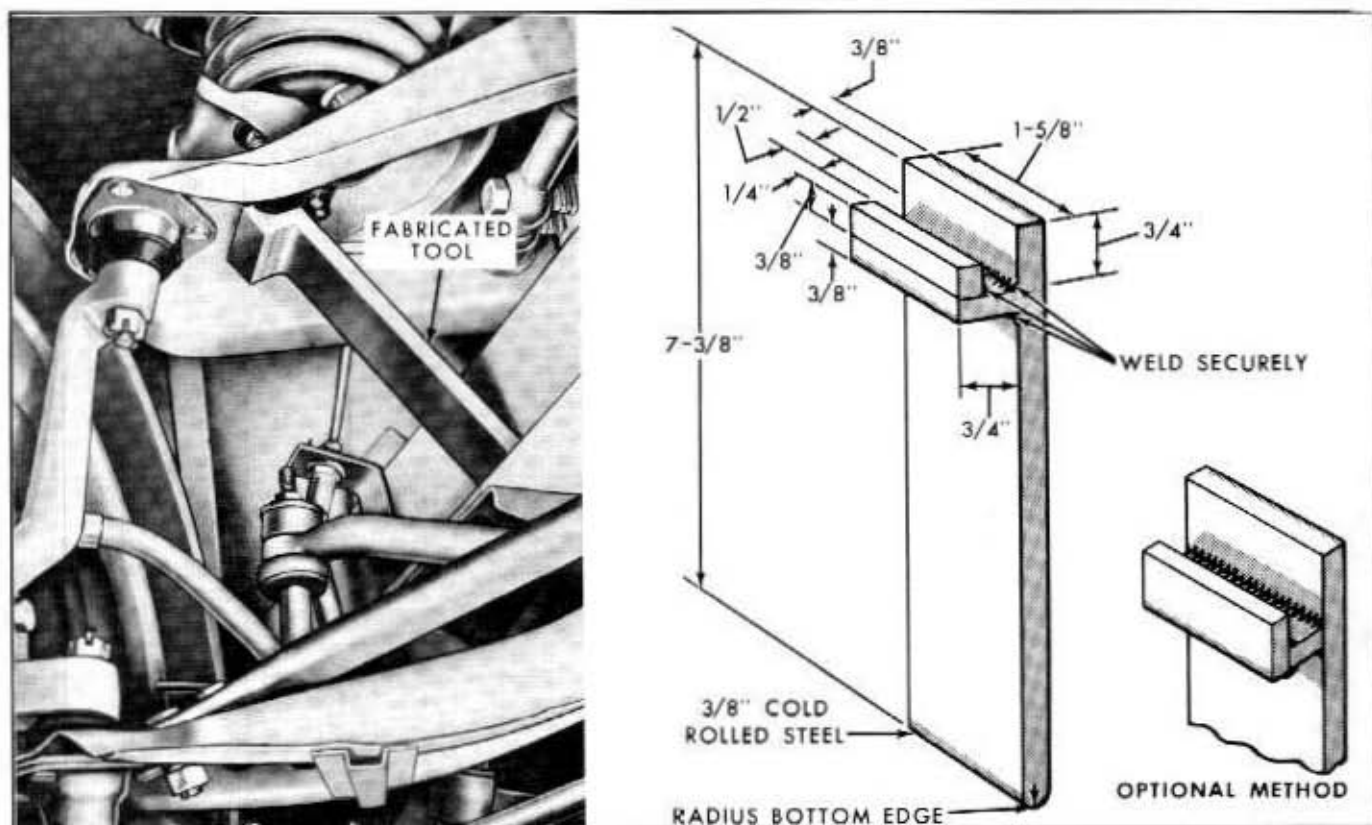

Fig. 3-12—Upper Suspension Arm Support—(60C-412)
1. Raise the car high enough to provide working space, and place a support under the upper arm. See figure 3-12.
1. Raise the car until the front wheel clears the floor and place the upper arm assembly support under the arm. See figure 3-12.
1. Raise the car until the front wheel clears the floor and place the upper arm assembly support under the arm. Refer to figure 3-12.